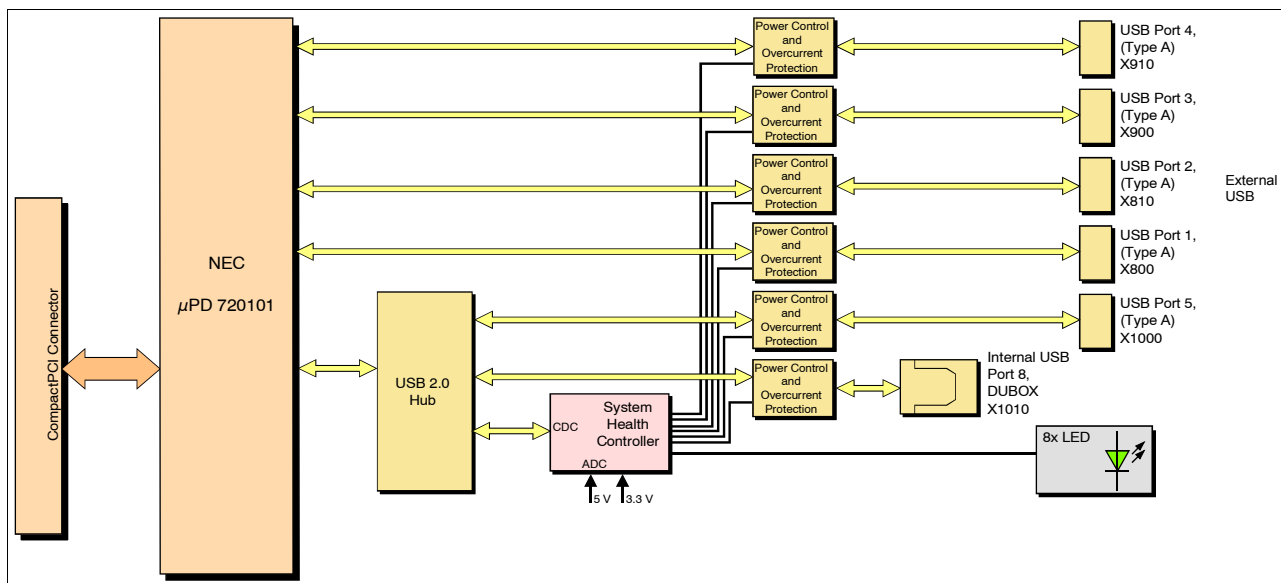

Figure 1: Block-circuit diagram of the CPCI-USB-5
4. Connect the internal USB line (USB port 8) via the 5-pin DUBOX connector (X1010) to the internal USB port (see figure 1).
7. Connect the external USB lines (USB1-USB5) to the USB connectors in the front panel (see Figure 1). The external USB lines are 'hot-pluggable' and can be connected or disconnected later.